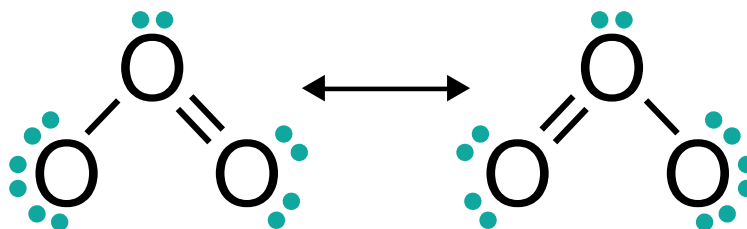

Figure 2
1. See Figure 1 for O_2 , and Figure 2 for O_3 (resonance structure).